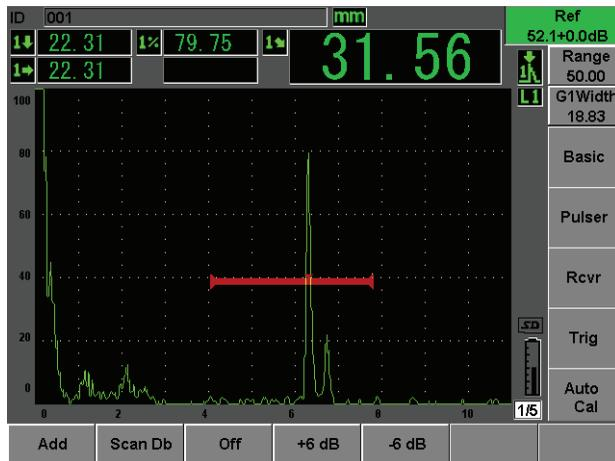

Figure 2-18 Reference gain setting
4. Set the sensitivity by capturing sensitivity hole or notch in gate 1, bringing the indication to 80 % screen height using (**AUTO XX%**), and then setting the reference gain by pressing [**2ND F**], (**REF dB**) [see Figure 2-18 on page 47].